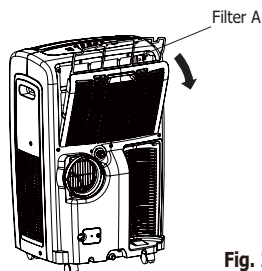
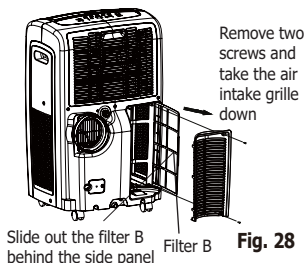

Fig. 27
Fig. 28
- This unit has three filters, they are filter A, B and C. Grasp the upper panel tab and take off the filter A which is behind the grill of the back panel (Fig.27). Remove the lower filter B and C by loosening the screws. Take down the air inlet grille, then remove the air filter as shown in Fig.28 & 29.